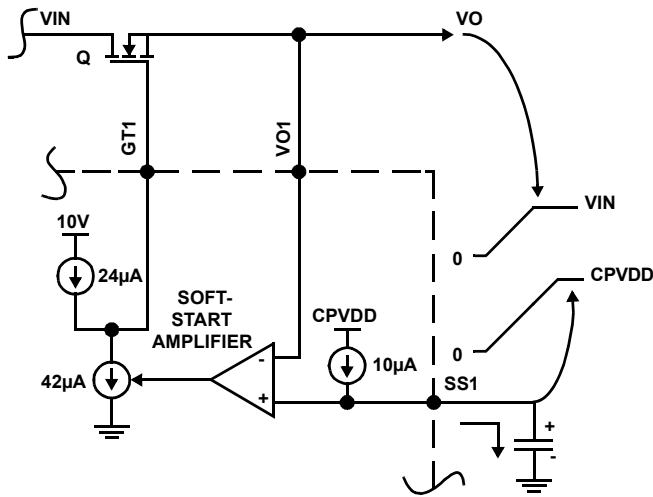

FIGURE 12. SOFT-START OPERATION
The output voltages are monitored through the Vo pins and slew up at a rate determined by the capacitors on the Soft-start (SS) pin, as illustrated in Figure 12. 24µA of gate charge current is available. The soft-start amplifier controls the output voltage by robbing some of the gate charge current thus slowing down the MOSFET enhancement. When the load voltage reaches its set level, as sensed by its respective UV pin through an external resistor divider, the Power Good (PG) output goes active.
I_{INRUSH} is the sum of the dc steady-state load current and the load capacitance charging current. If the dc steady-state load remains disabled until after the soft-start period expires (PGX could be used as a load enable signal, for example), then only the capacitor charging current should be used as I_{INRUSH} . The C_{SS} value should always be more than (1/2.4) of that of C_{ISS} of the MOSFET to ensure proper soft-start operation. This is because the C_{ISS} is charged from 24μA current source whereas the C_{SS} gets charged from a 10μA current source (please refer to Figure 12). In order to make sure both V_{SS} and V_O track during the soft-start, this condition is necessary.